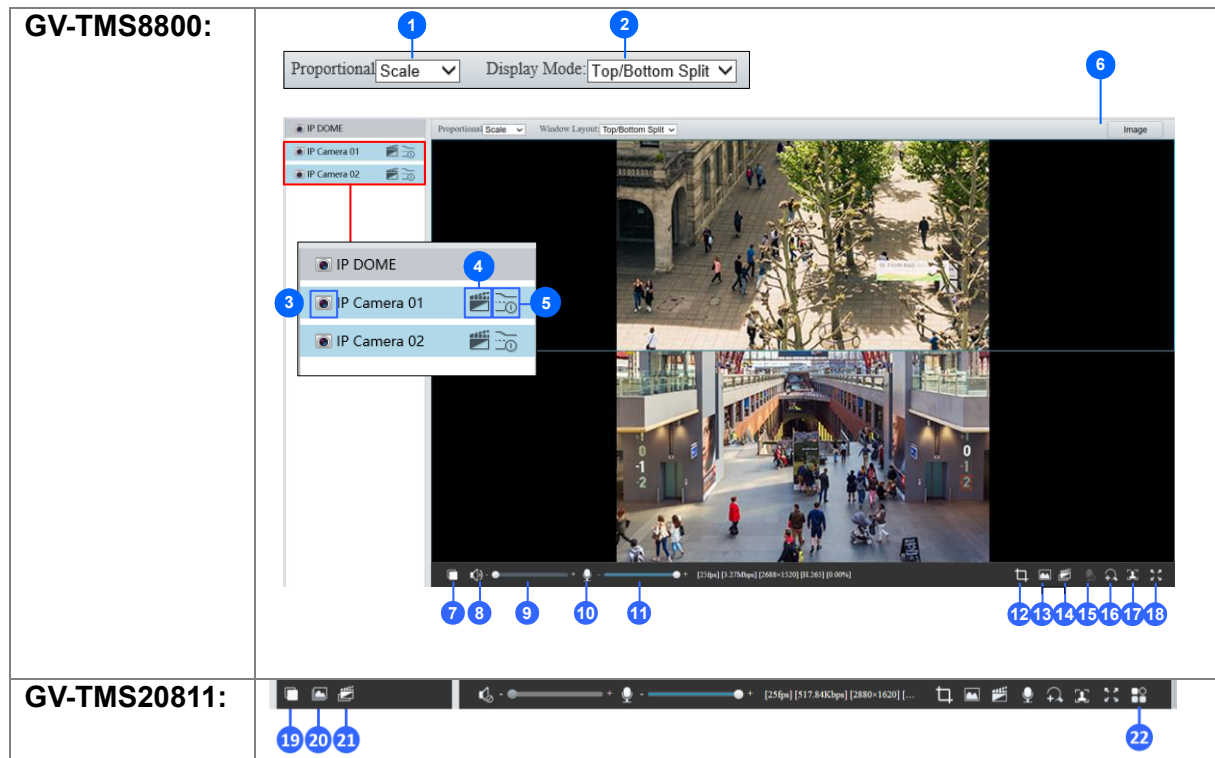
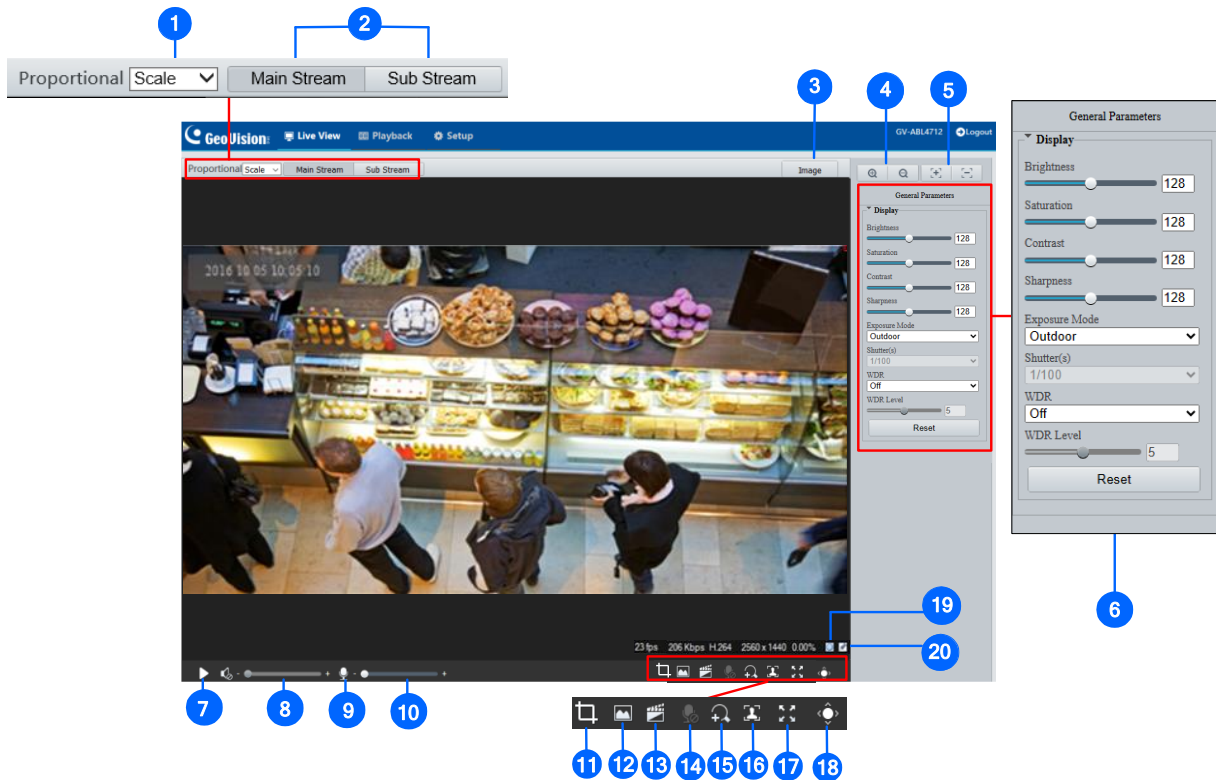

Figure 2-3
Figure 2-4
1. Click  (No. 16, Figure 2-3 / No. 15, Figure 2-4) on the toolbar.
4. To exit, click  (No. 16, Figure 2-3 / No. 15, Figure 2-4) on the toolbar.